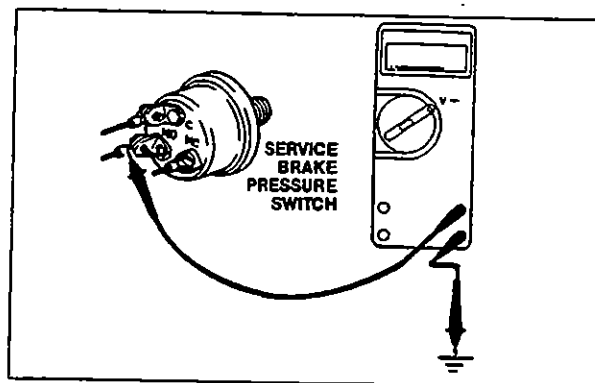

Fig. 1.1.15
Correction: Connect the positive (+) probe of the VOM to the normally open (NO) contact of the brake pressure switch and the negative (-) probe to ground. With the system activated, sufficient air pressure to activate the brake pressure switch, cruise control switch on, and clutch pedal up, the volt meter should read 5 volts (Fig. 1.1.15). With the service brake pedal depressed, the volt meter should read 0 volts. If these readings are not obtained, replace the service brake pressure switch.